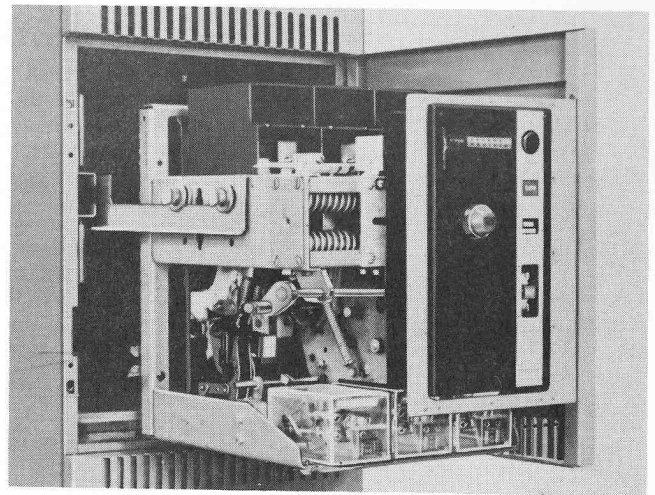

Figure 7
8. Place breaker on fully extended moveable rails. Make sure all four rollers engage on inside grooves (Outside grooves fit into stationary rails inside cell). (Figure 7).